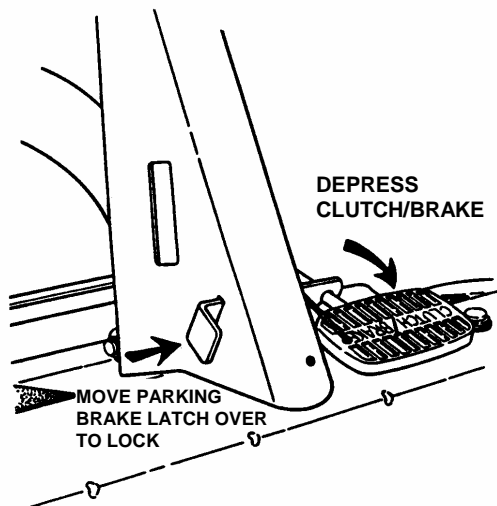

FIGURE 4.7
4. Depress clutch/brake pedal all the way down. Move and hold the park brake latch over in the "ON" position and release the clutch/brake pedal to lock the park brake. See Figure 4.7.